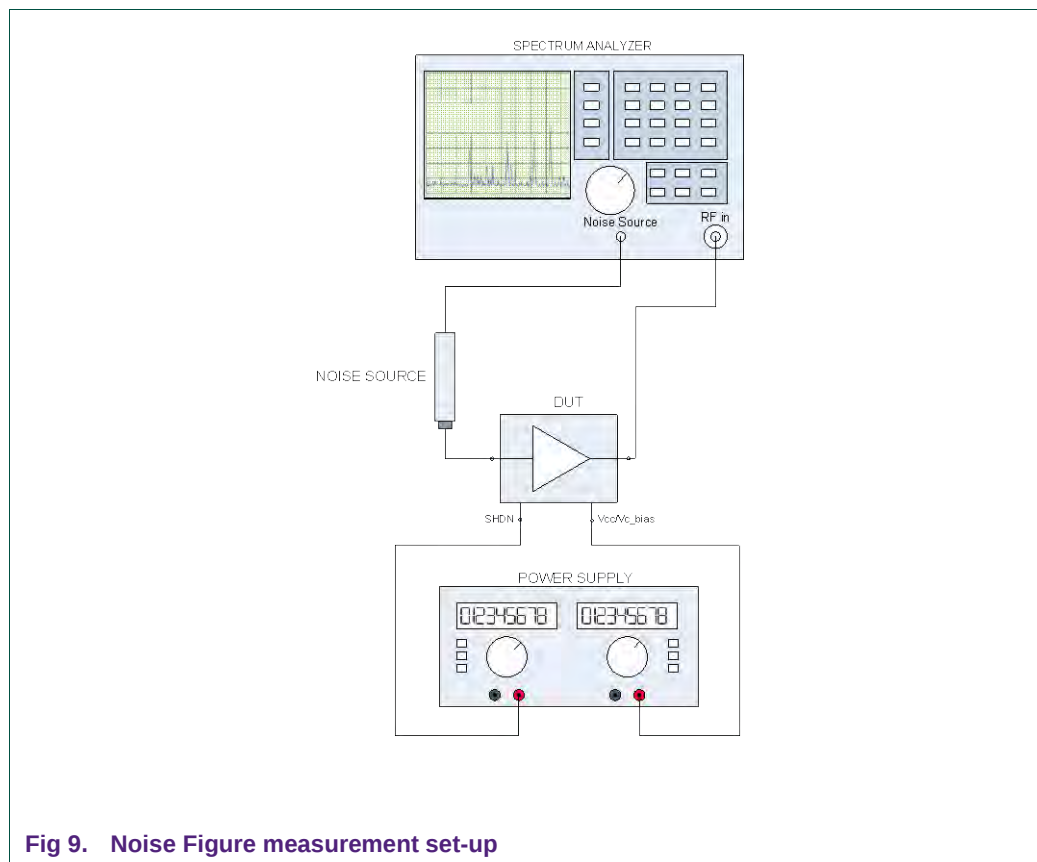

Fig 9. Noise Figure measurement set-up
6.3 Noise Figure Measurements (NF).
The Noise Figure (NF) of the EVB is measured with a calibrated noise source (with a specified Excess Noise Ratio (ENR)), and with a spectrum analyzer with noise measurement option. The system is calibrated with this noise source, in order to measure accurate noise figures (see Fig. 9).